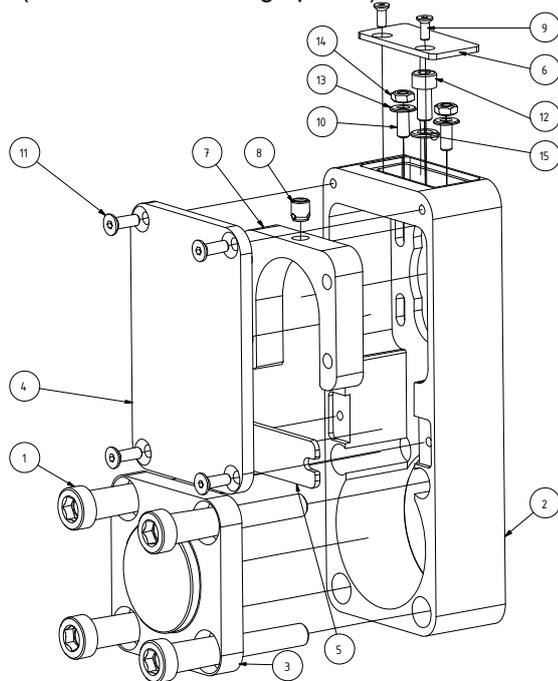

Figure 19: Parallel housing
- ◆ Dismantle lid (please refer to Figure 19 Pos.6) and screws (please refer to Figure 19Pos. 9) .
- ◆ Dismantle lid (please refer to Figure 19 Pos.4) and screws (please refer to Figure 19Pos. 11) .
- ◆ Loosen central toothed belt screw (please refer to Figure 19 Pos.12).
- ◆ Loosen tightening screw (please refer to Figure 19 Pos.12) until the drive unit is not lowered any further.
- ◆ Mount lid (please refer to Figure 19 Pos.6) with screws (please refer to Figure 19 Pos.9).
- ◆ Mount lid (please refer to Figure 19 Pos.4) with screws (please refer to Figure 19 Pos.11).